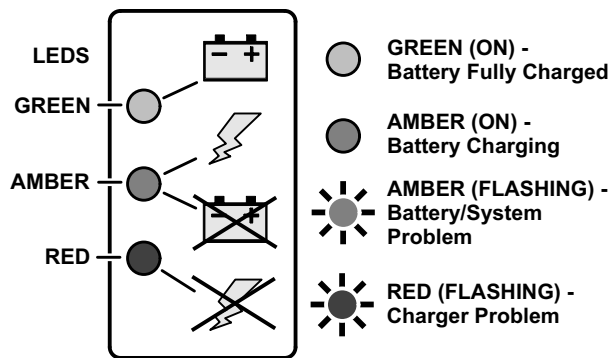

Figure 3-12. Charger Decal LED Indicators
3. When powered up the charger will go through a short LED indicator self-test. The battery charger LED indicators on the charger (Figure 3-12.), will flash in sequence for two seconds. These LED indicators can be viewed
If a fault has occurred during battery charging, the (AMBER or RED) LED on the charger LED indicator (*See Figure 3-12.*) will flash corresponding to the fault which occurred. Refer to Table 3-1 following for the charger LED flash codes and their meaning.